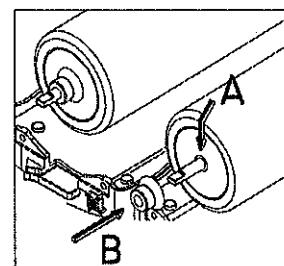

Fig. 19
Lubricate the surface of the cylinder in the zone of the transmission shaft outlet as as shown by the arrow (A). ( Fig. 19) Place the spiral blade basket lubricating both the internal and external part. (see arrow B - Fig. 19)